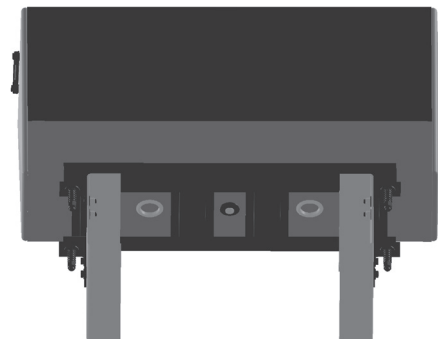

Figure 4
8. Upright Tanks are designed with two 2" NPT ports openings in the bottom of the tank (see Figure 4). Install the reducer bushing in one port and the return line diffuser in the other port. A thread sealant is recommended. Warning: Do not use Teflon® tape. Each port can be used as pump inlet or return ports.